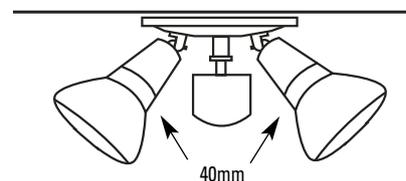

Fig. 8
- E. Ensure that globes are positioned 40mm or more from the sensor head or mounting surface as shown in (Fig. 8). The globes become very hot and must not be touching or too close to sensor head.